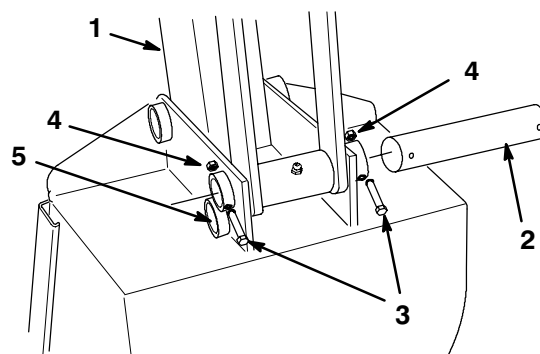

Figure 27
1. Remove the bolts and nuts securing the upper bucket pin (Fig. 27).
3. Swing the bucket up, aligning the second set of holes with the mounting holes on the dipperstick (Fig. 27).